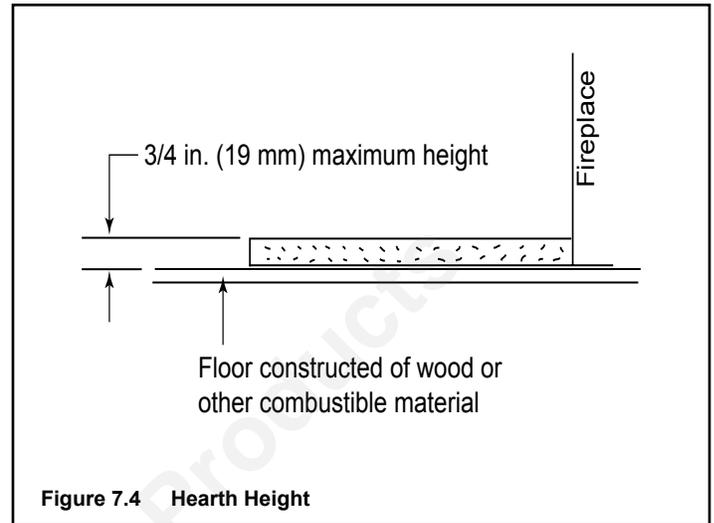

Figure 7.4 Hearth Height
- Press hearth to floor making sure hearth does not exceed 3/4 in. (19 mm) in total height. See Figure 7.4